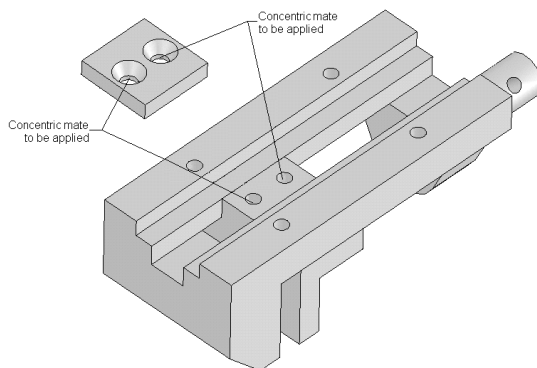

Figure 12-71 Faces to be selected to apply mate
4. Apply the **Concentric** mate between the two cylindrical faces of the clamping plate and the two holes of the Vice Jaw, refer to Figure 12-71. You may have to move the Clamping Plate after applying the first mate.